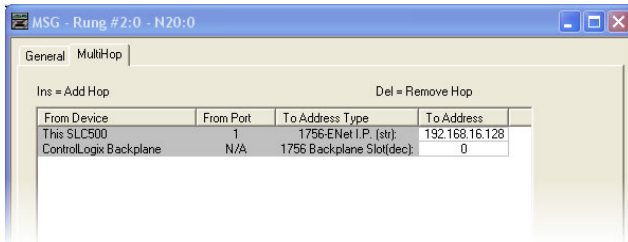

Figure 121: MSG Configuration, "MultiHop" Tab
- e) Under the “MultiHop” tab settings, set the “To Address” in the first row to the inverter’s IP address, and the “To Address” in the second row to 0. Refer to Figure 121.